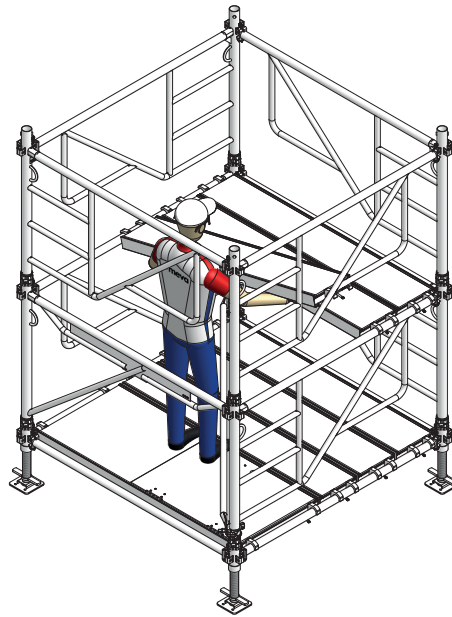

Fig. 10.1
12. Suspend the scaffold platforms 170/30 for level 1 (Fig.10.1).